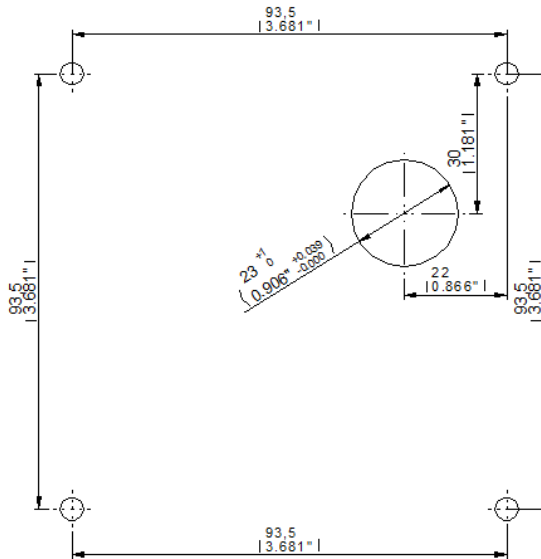

Figure 2-4. Measurements in mm (inches).
1. Mark the holes according to Figure 2-4.